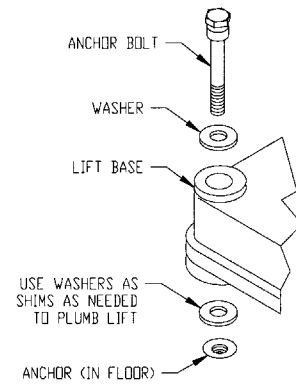

Figure 8
22. If the floor is not level, use the 7/16-inch flat washers provided as shims to level the base so the lift column is plumb. See figure 8. Install the provided anchor bolts using minimum torque until you are sure that the lift is plumb. Then tighten the bolts until the hex portion of the bolt twists off. (This ensures the bolts are properly torqued)